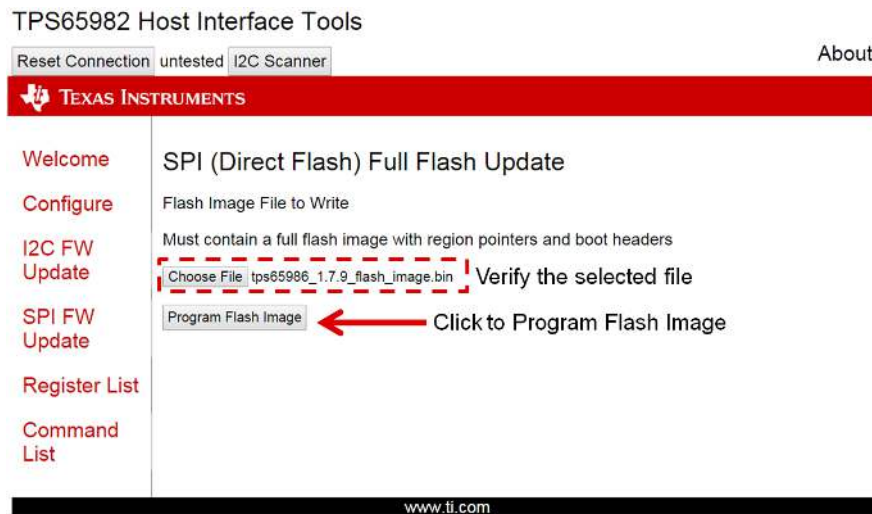

Figure 18. SPI Firmware Update—Start Flash Update
Step 3. Click the *Program Flash Image* button (see Figure 18).